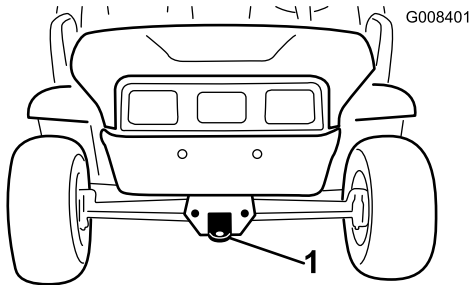
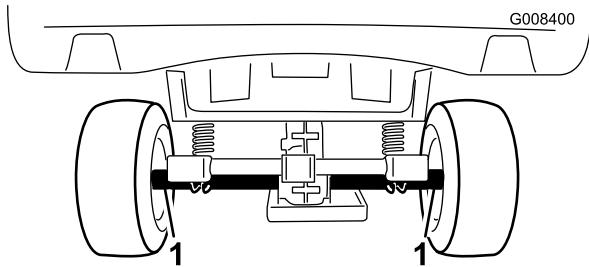

Figure 19
Figure 20
For moving the vehicle long distances, a trailer should be used. Make sure that the vehicle is secured to the trailer. Refer to Figure 19 and Figure 20 for the location of the tie-down points.
2. Affix a tow line to the tongue at the front of the machine's frame (Figure 19).